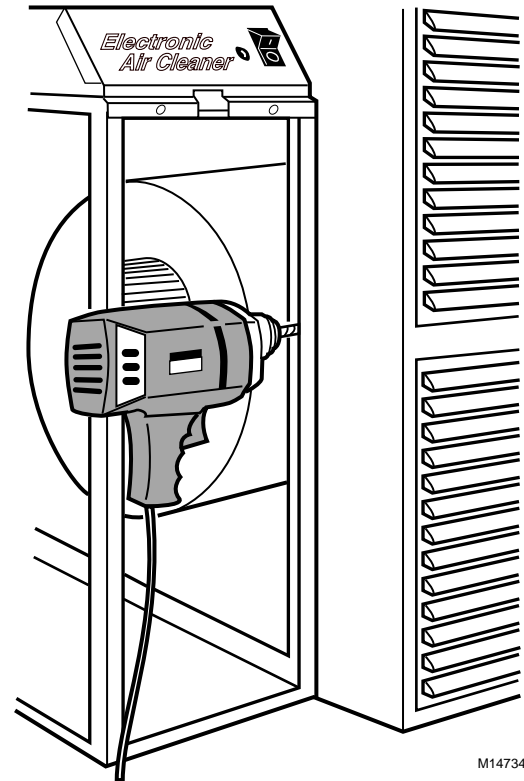

Fig. 6. Fasten cabinet to furnace.
- Attach the cabinet securely to the furnace. The unit can be attached directly, as shown, or a starting collar can first be fitted in the furnace opening. Either drill holes and fasten with sheet metal screws or rivets, or use slip joints. See Fig. 6.